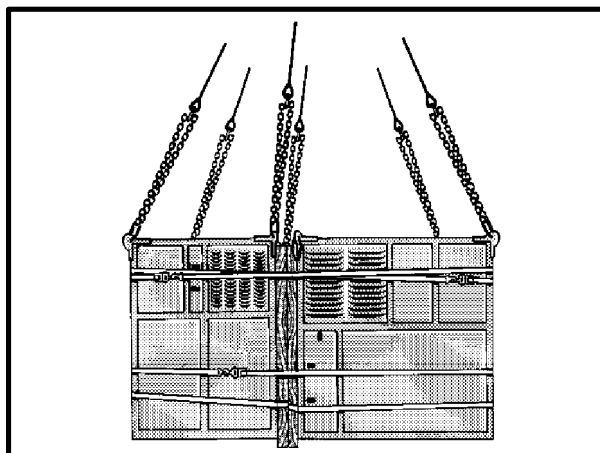
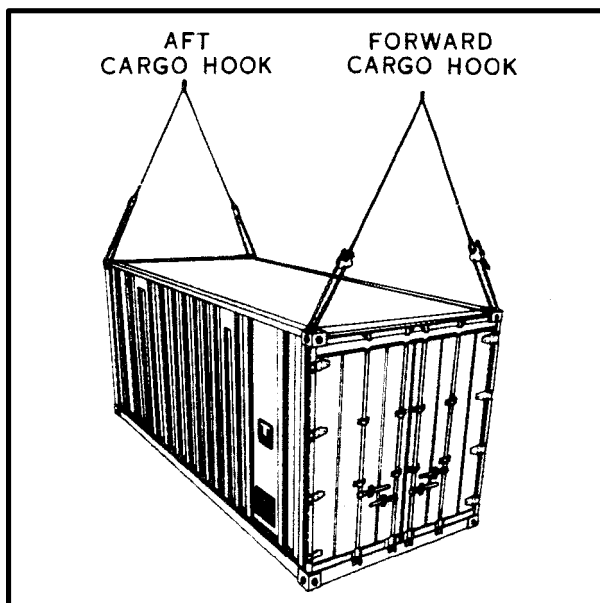

Figure 6-11. Six-leg Sling Set
Figure 6-12. Dual-Point Load
(4) Some loads use six lift provisions. Figure 6-11 shows that the apex fitting was disassembled and two additional legs were added.
(5) Remember, this sling set can still only transport 10,000 pounds of cargo. Even though the six sling legs could carry 15,000 pounds, the apex fitting can only carry 10,000 pounds.
(6) Some loads can be carried in the dual-point configuration. Dual-point loads require an additional apex fitting for the extra sling set (Figure 6-12).